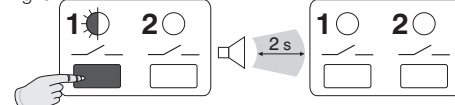

Fig. 9
- To cancel coupling:** hold down **Key 1** until a single acoustic signal sounds; then release it: **LED 1** is off (fig. 9).